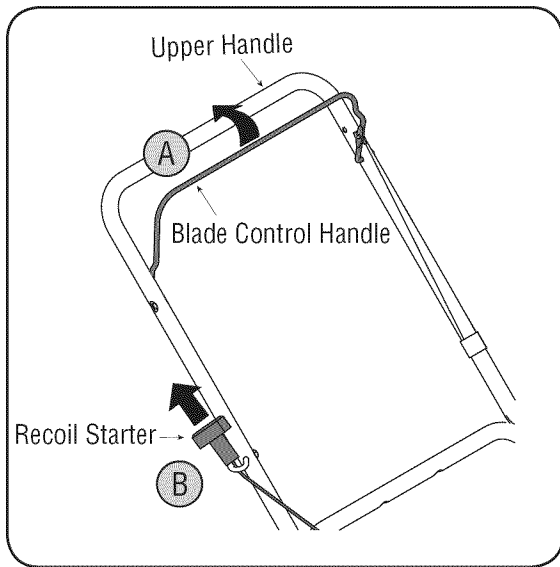

Figure 11
2. Standing behind the unit, depress the blade control handle and hold it against the upper handle as shown in Figure 11.